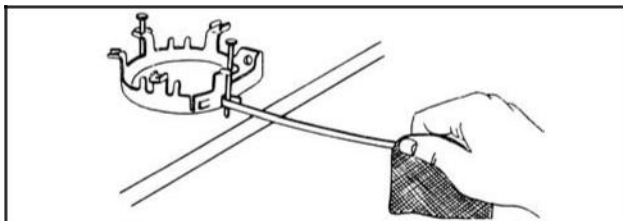

Fig. 589 – LUBRICATING SPRING
**NOTE:** If starter assembly includes two (2) segment shaped drag plates, discard these. Remove spacer and broken spring.
7. Hook new spring around nail as shown in Fig. 589. Smear some grease in a cloth and run cloth along the length of spring.